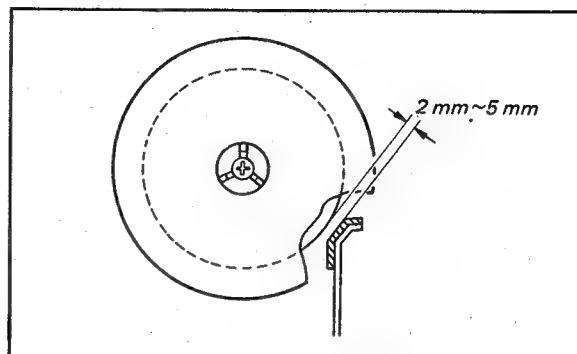

Fig. 4-19. Take-up brake lever check
2. Set the Function Lever to REWIND. Check for a clearance of approximately 2 mm ~ 5 mm between the Brake Lever and the Take-Up Reel Table. Refer to Fig. 4-19.